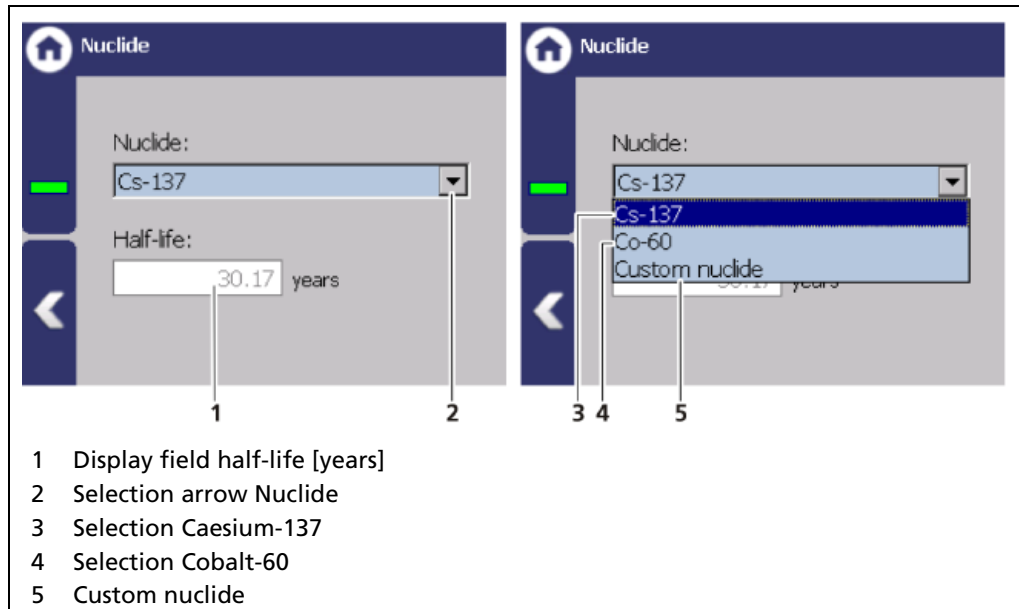
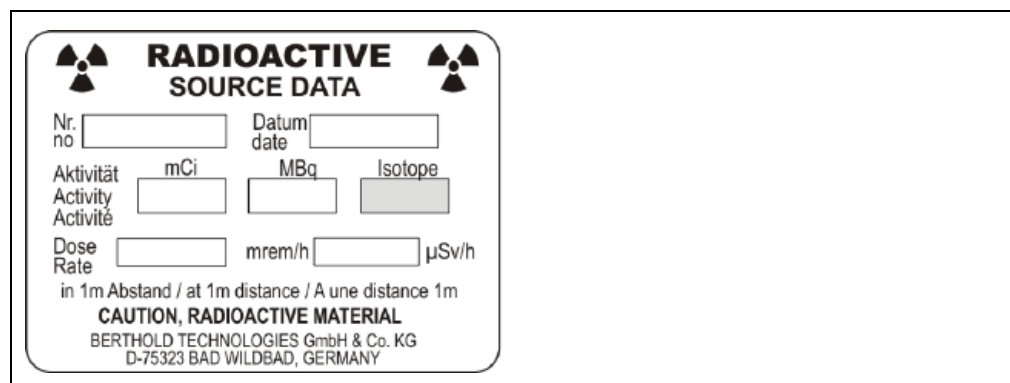

Fig. 68 Calibration Parameters: Nuclide
Fig. 69 Type Plate Source
The isotope used for the level measurement can be selected in the "Nuclide" tab. This selected isotope is also used in the software for decay compensation of the count rate measured at the PBC trigger detector, if used. The half-life of the isotope is shown on the display field (Fig. 68, item 1).
1. Click on the selection arrow (Fig. 68, item 2).
2. Select the isotope used. Cs-137 (Fig. 68, item 3) or Co-60 (Fig. 68, item 4). The isotope of the source is on the type plate of the source (Fig. 69). Note the operating manual of the shield.
3. When selecting "Custom nuclide" (Fig. 68, item 5), the half-life of the isotope can be entered.